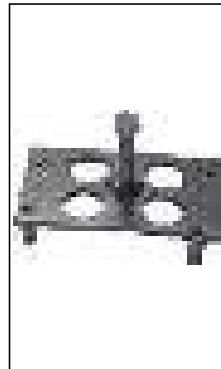

Fig. 1.9A
3. Puller assembly crankcase - M131 011 0 (Fig. 1.9A)